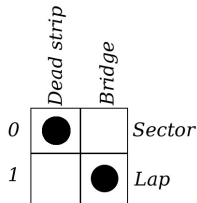

Figure 32: Ds bridge lap count sensor, dead strip sector sensor.
In order that the *Track Interface* interprets the DS bridge as lap counter sensor and the dead strip as sector sensor, the double switch (5) must be set as shown in figure 32.